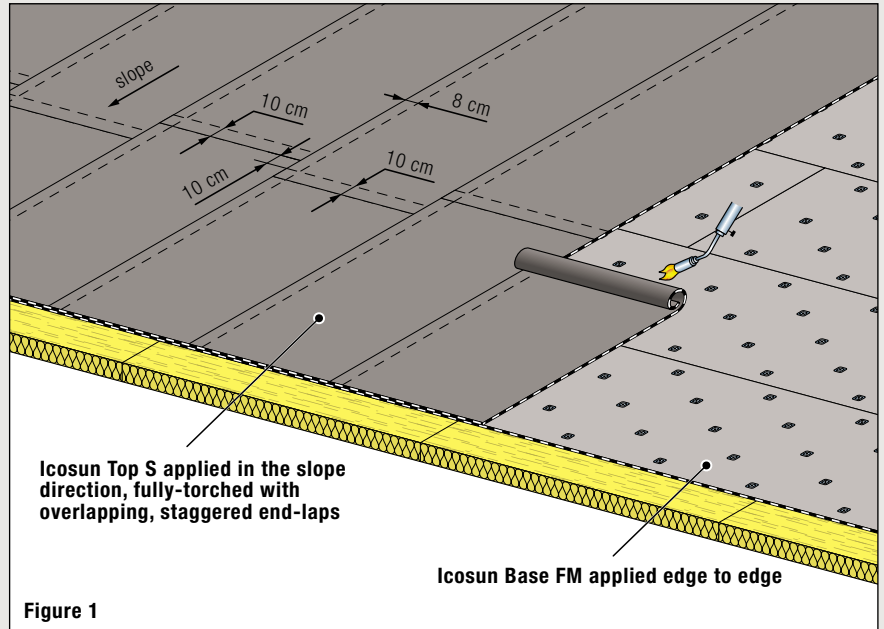

Figure 1
- By torching on Icosun Base FM, underlayer specifically designed to be mechanically-fixed onto concrete & masonry slab, wooden boarding, old waterproofing, non-torchable insulating board (mineral wool board without bitumen surfacing, perlite+fiber board, polyisocyanurate board). See Fig. 1.